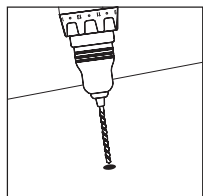
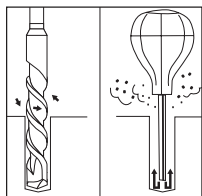

Figure 6
Figure 7
6. Move the safe aside to clear the marked spot for drilling. Then drill a 5/8 in./16mm diameter hole with a depth of 21/8 in./54mm and remove any excess dust (Figure 6 and Figure 7).